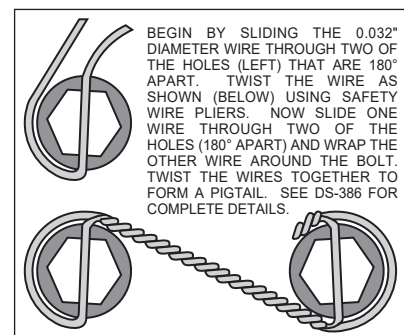
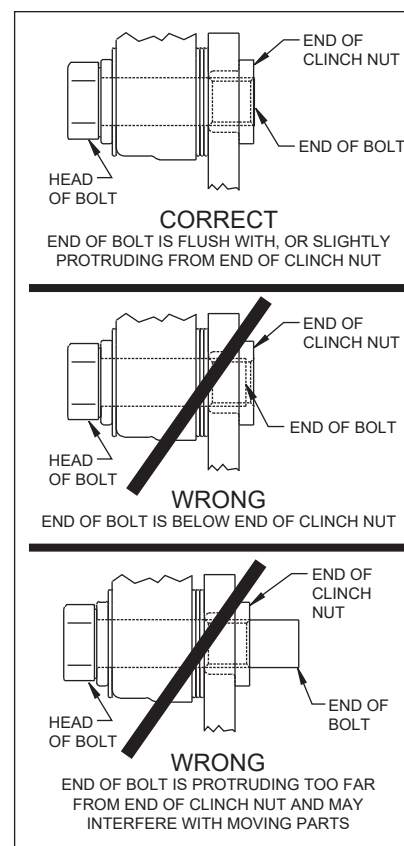

Figure 4. Safety Wire Diagram
Figure 5.
Assembly Instructions (numbers in parenthesis refer to the part list/diagram on the preceding page): **CAUTION:** All mounting bolts must fully engage insert nuts. Be sure to check that all bolts are either flush or protruding through flanged side of insert nut after shimming, Figure 5.
- The rotor (3) has two sides. A flat side and an inset side. Bolt hat (2) to flat side of rotor (3) using bolts (5). Using an alternating sequence, apply red *Loctite*® 271 to the threads and torque bolts to 25 ft-lb. Safety wire bolts using standard 0.032 inch diameter stainless steel safety wire as shown in Figure 4. Please refer to Wilwood's data sheet DS-386 (available at www.wilwood.com/Pdf/DataSheets/ds386.pdf) for complete safety wire installation instructions.
- Align the correct hole pattern in the hat (2) with the stud pattern on the axle flange. **NOTE:** Some OEM and after market axles come with stud sizes larger than 0.50" diameter. Verify stud size and have a qualified machine shop drill the hats to the correct size. Slide the hat/rotor assembly (2 and 3) over the wheel studs and against the axle flange face.
- NOTE:** Please reference the caution statement at the beginning of the assembly instructions. Mount the caliper (6) over the rotor (3) and onto the caliper mounting bracket (1) using washers (7) and mounting bolts (8). View the rotor through the top opening of the caliper. The rotor should be aligned in the center of the caliper. If not, adjust the caliper by using 0.032 inch shims (9) by placing them between the caliper mounting bracket (1) and the caliper (6). Add as many shim washers (9) as necessary to achieve the correct alignment. **NOTE:** The end of the bolt must be flush with or slightly protruding from the head of the clinch nut. See Figure 5. Place spare shims (9) between washer and caliper mounting ear to achieve the proper mounting fastener configuration. Always use the same amount of shims on both the top and bottom caliper mounting bolts (8). Apply red *Loctite*® 271 to the mounting bolt threads (8), torque to 40 ft-lb. Caliper mount bolts may be safety wired for additional security.
- Position the Wilwood disc brake pads (10) into the caliper (6) and fasten with cotter pin (4). Steel backing plate side of brake pad should face the caliper pistons.